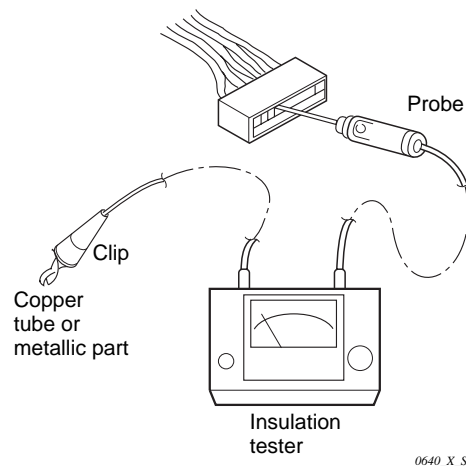

Fig. 18
- Disconnect the connector of the desired electric part from terminal plate, P.C.B. Ass'y, etc. (Fig. 18)